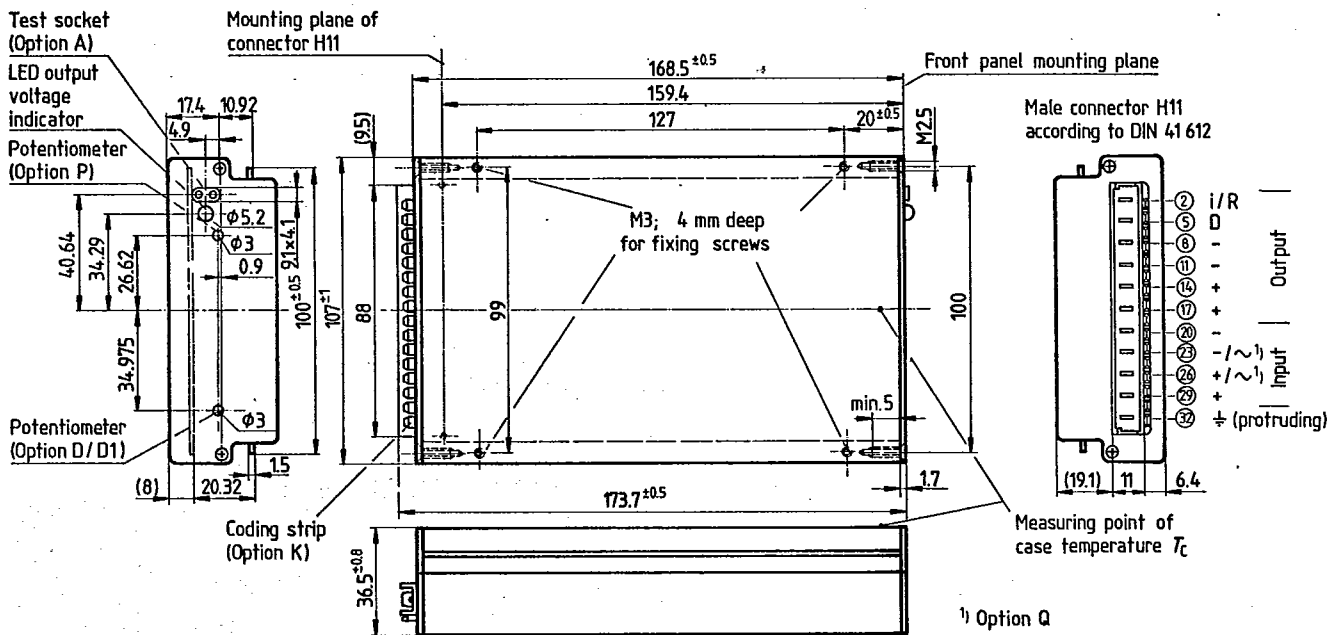

Fig. 19
- Option K: Coding strip to prevent insertion of wrong device; available for case L04. See Fig. 19.